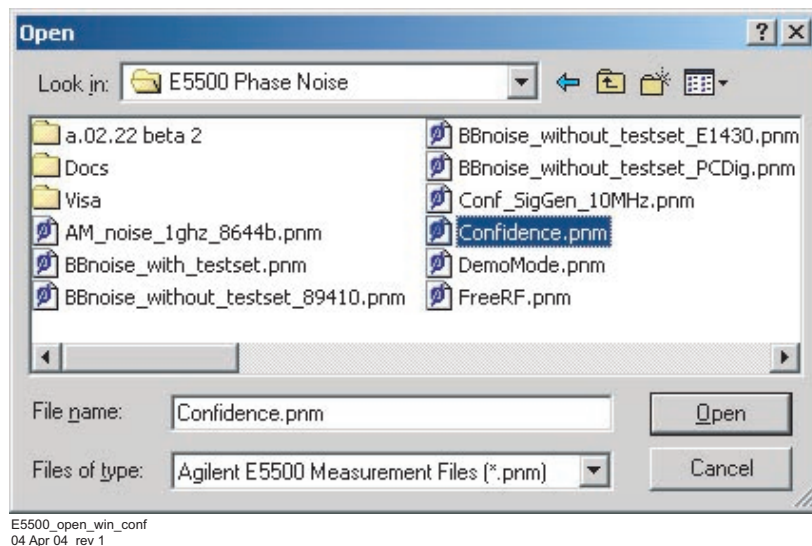

Figure 6 Opening the file containing pre-stored parameters
- 3 In the **File Name** box, select **Confidence.pnm** (Figure 6).